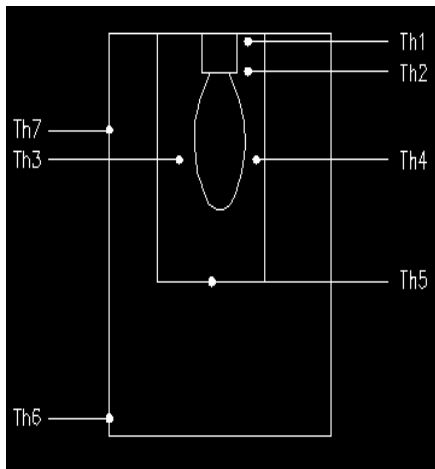

Fig. 1: Thermocouples Location
- 3- Thermocouples were attached at the specified positions (as shown in Fig.1).
- 6- Temperature readings were recorded every fifteen (15) minutes. The same order was consistently used in recording the different temperature values of the different thermocouples.